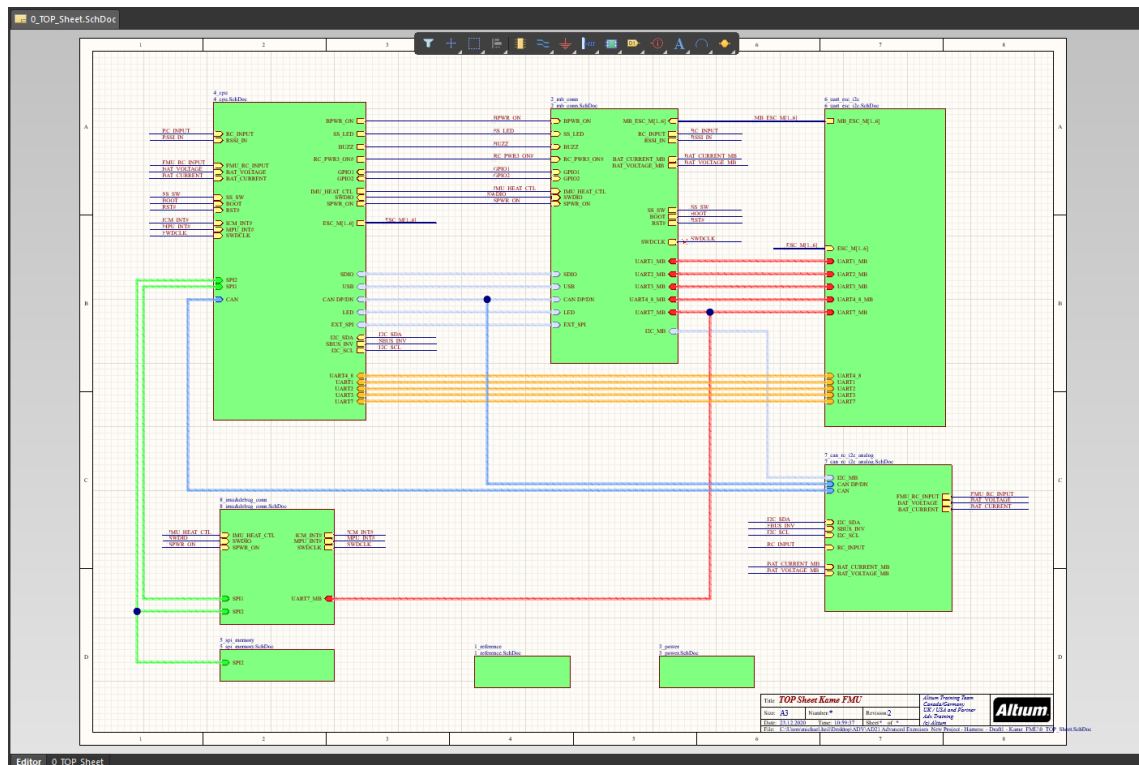

Figure 1. Final TOP Sheet
4. In this exercise, we will finish the design by adding the missing harness information so that the final result will look similar to Figure 1.